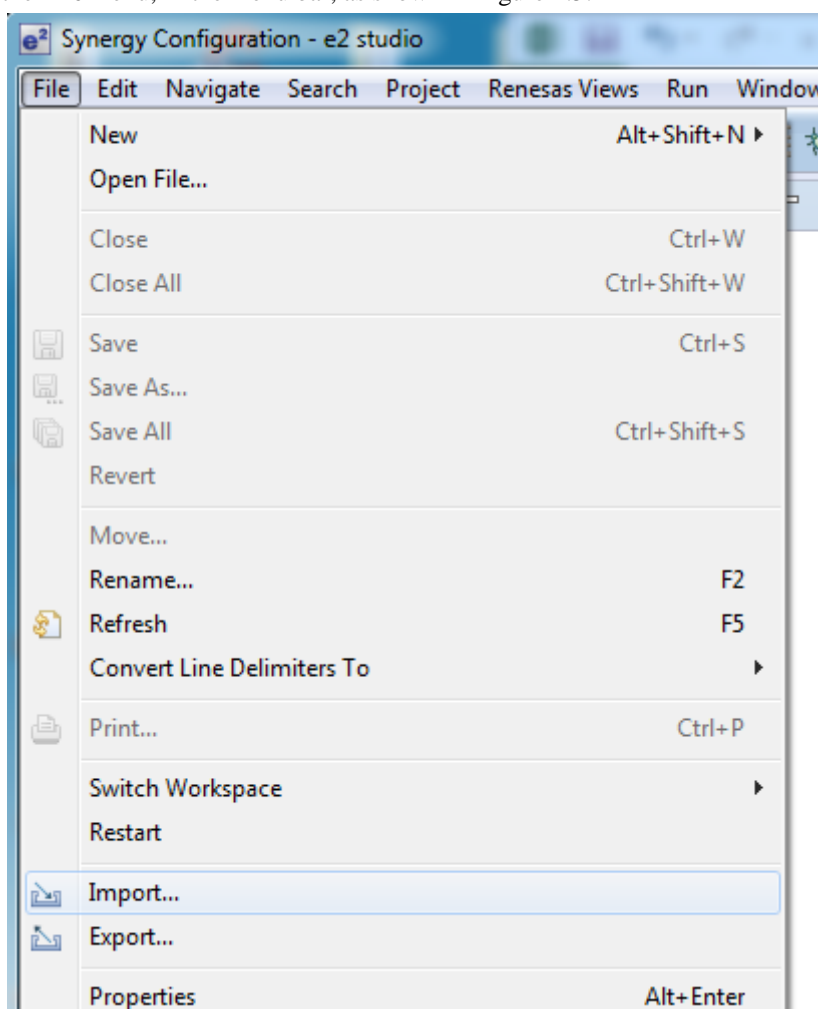

**Figure 2.3 Workbench arrow**
- D. When the workspace is opened, you may see the Welcome Window. If that happens, click the Workbench arrow to proceed past the Welcome Screen as seen in Figure 2.3.